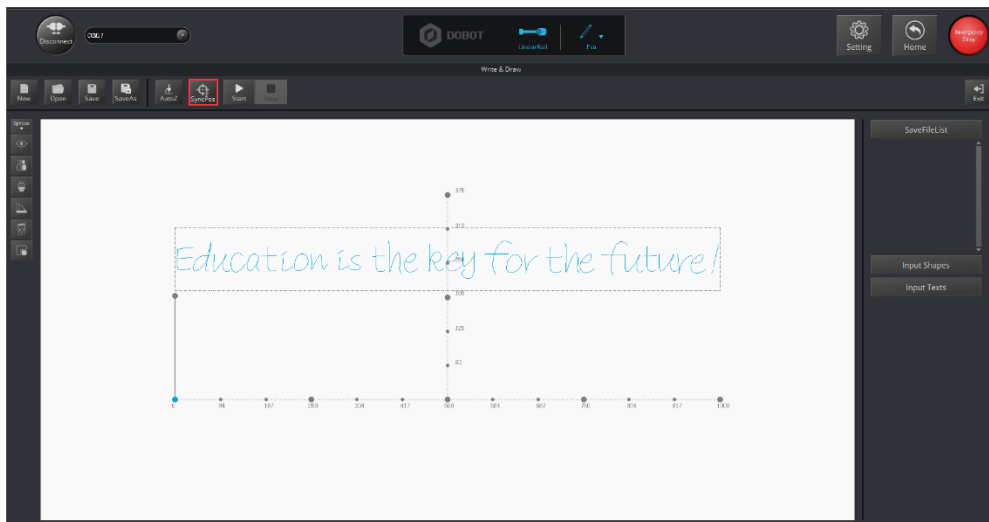

Figure 1.26 SyncPosition
**Step 10** Click **SyncPosition** on the **Write&Draw** page, and then the Dobot will move to the initial position. As shown in Figure 1.26.